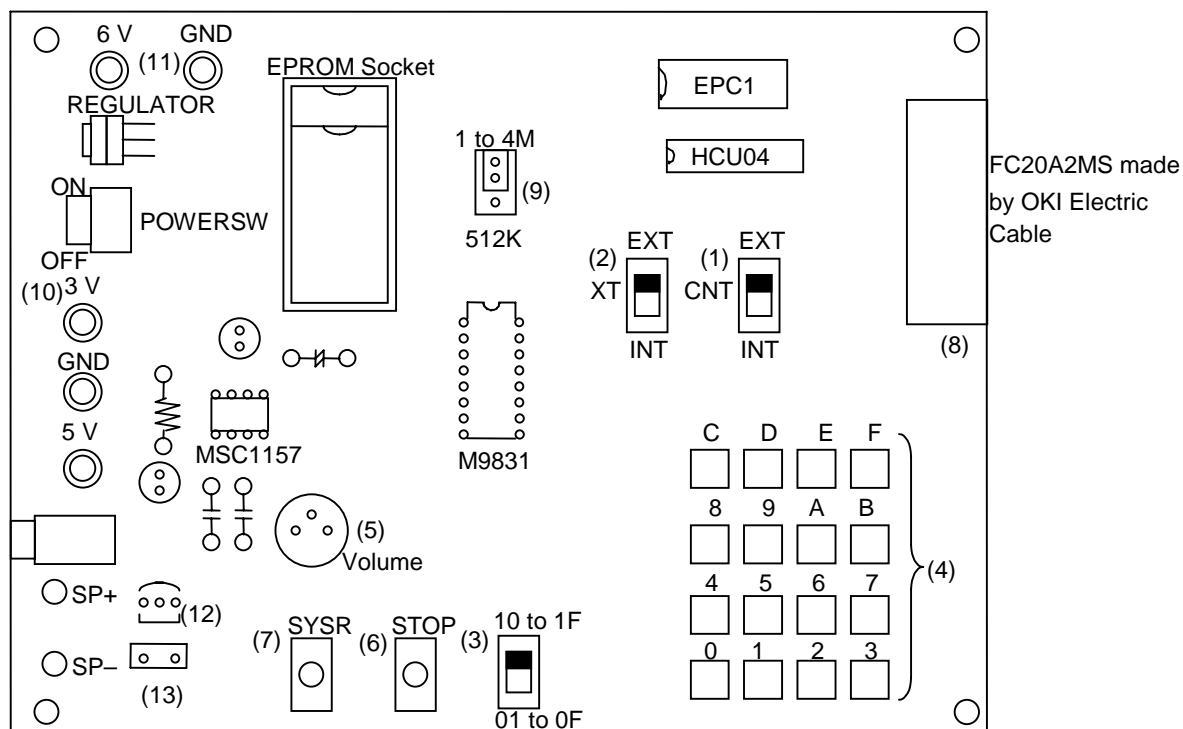

Figure 1
1. CNT (EXT/INT) selector shown in Figure 1 (1)
2. XT (EXT/INT) selector shown in Figure 1 (2)
3. Phrase address (01-0F/10-1F) selector shown in Figure 1 (3)
4. 0 to F keys shown in Figure 1 (4)
5. Output level controller shown in Figure 1 (5)
6. STOP switch shown in Figure 1 (6)
7. SYSR switch shown in Figure 1 (7)
8. 20-pin connector shown in Figure 1 (8)
9. EPROM size select jumper switch shown in Figure 1 (9)
10. Regulated power supply shown in Figure 1 (10)
11. Battery power supply shown in Figure 1 (11)
First, attach a transistor on the board shown in Figure 1 (12) by yourself.
Second, attach a jumper switch on the board shown in Figure 1 (13) and short-circuit it.